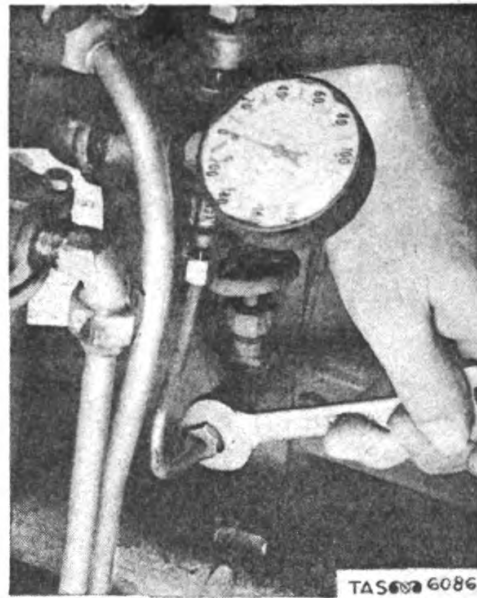

Fig. 86. Removing Outer Discharge Tubing by Loosening Adapter Nuts at Base of Pressure Regulating Valve.
2. Remove outer discharge tubing by loosening adapter nuts at base of pressure regulating valve and at entrance to shut-off valve. (See fig. 86.)